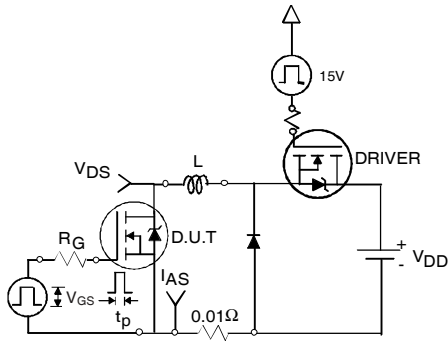

Fig 12a. Unclamped Inductive Test Circuit
- ③ Pulse width $\leq 1.0\text{ms}$; duty cycle $\leq 2\%$.
- ④ $C_{oss\ eff.}$ is a fixed capacitance that gives the same charging time as C_{oss} while V_{DS} is rising from 0 to 80% V_{DSS} .
- ⑤ Limited by T_{Jmax} , see Fig.12a, 12b, 15, 16 for typical repetitive avalanche performance.
- ⑥ This value determined from sample failure population, starting $T_J = 25^\circ\text{C}$, $L = 0.10\text{mH}$, $R_G = 25\Omega$, $I_{AS} = 75A$, $V_{GS} = 10V$.
- ⑦ This is applied to D²Pak, when mounted on 1" square PCB (FR-4 or G-10 Material). For recommended footprint and soldering techniques refer to application note #AN-994.
3. Equation below based on circuit and waveforms shown in Figures 12a, 12b.